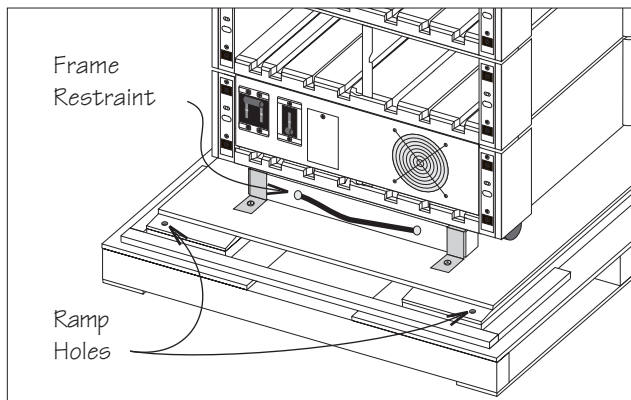

Fig 3-2 Frame Restraint and Ramp Holes
2. **Remove Two Frame Restraint Screws** - See Figure 3-2. Remove the frame restraint screws. Use the cloth handle to remove the frame restraint from the pallet. Place the frame restraint and two screws aside.